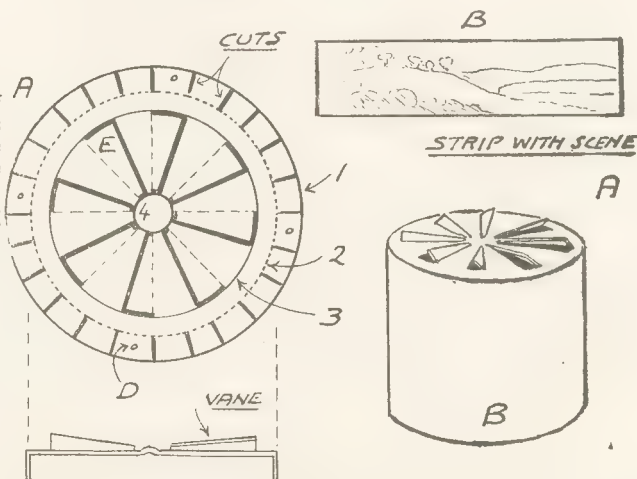

Fig. 3—The rotor, the cylinder and a suggested painted scene
The shade is built up of the top disc (A) Fig. 3 and the parchment cylinder (B). The disc is a piece of light, easily-cut tin of 6ins. diameter. With a compass scribe out the circles (1), (2) and (3). Cut at intervals between (1) and (2) all round as shown, thus forming tabs which finally can be bent down with a pair of flat-nosed pliers. Drill the holes (D) on opposite side tabs for attaching the parchment.